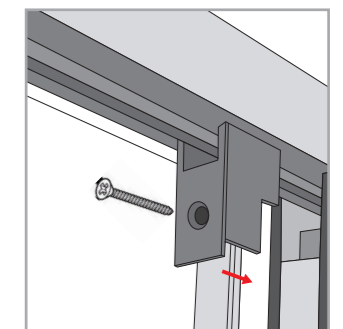

Figure 23: Installing the front side track guide.
**Step 9** - Screw the front side track guide in place to install as shown in Figure 23.